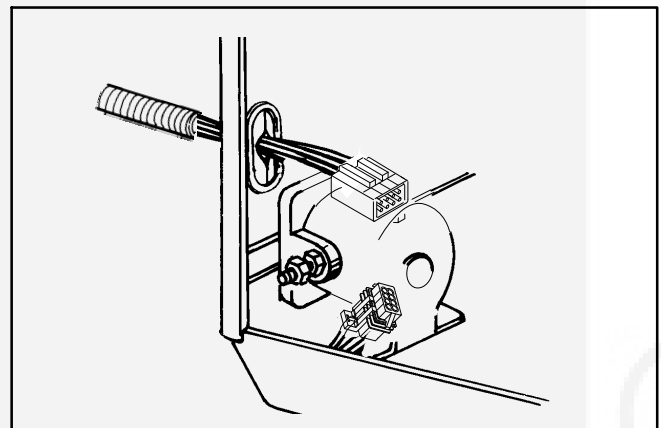

FIGURE 18. REMOTE CONTROL CONNECTOR
The genset has an 8-pin connector for remote control connections (Figure 18). Remote control wiring harnesses in several lengths are available separately. To make connections to a remote control panel:
A. Measure genset inlet air temperature with one thermocouple tied in the middle of the inlet air grille (Figure 18).